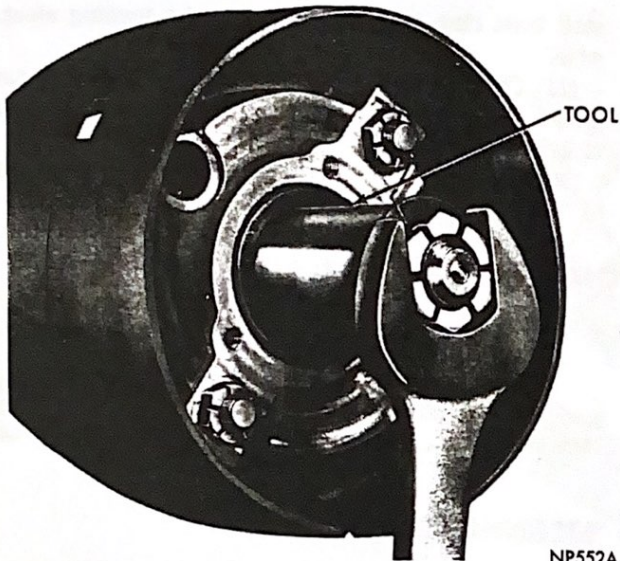
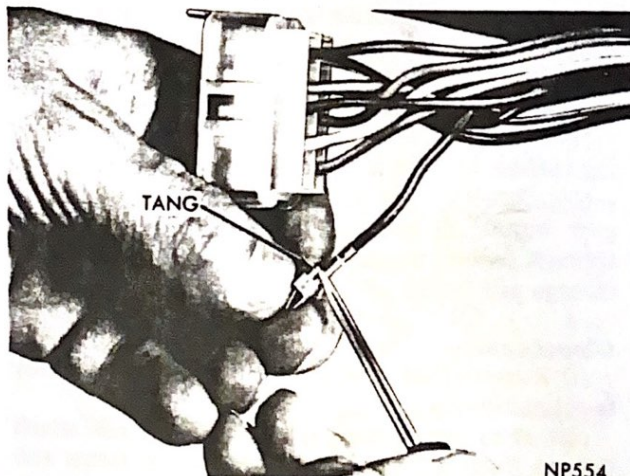

Fig. 10—Pulling Shaft Through Bearing
Fig. 11—Spreading Tang on Wire Terminal
(12) Install snap ring in lower groove on upper end of steering shaft. Slide shaft into column and through upper bearing by hand. Install Tool C-3879, washer and steering wheel nut (Fig. 10). Turn nut to pull shaft through bearing, then install upper snap ring.
(13) Position turn signal switch in bearing housing, install switch retainer plate and secure with the three screws.
(14) Bend turn signal wiring terminal tangs outward slightly (Fig. 11). Then install wires in their